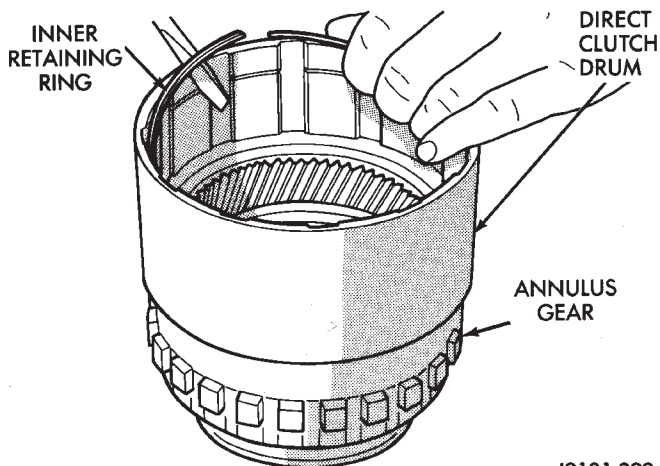

Fig. 271 Clutch Drum Inner Retaining Ring Removal
(7) Remove direct clutch drum rear retaining ring (Fig. 271).